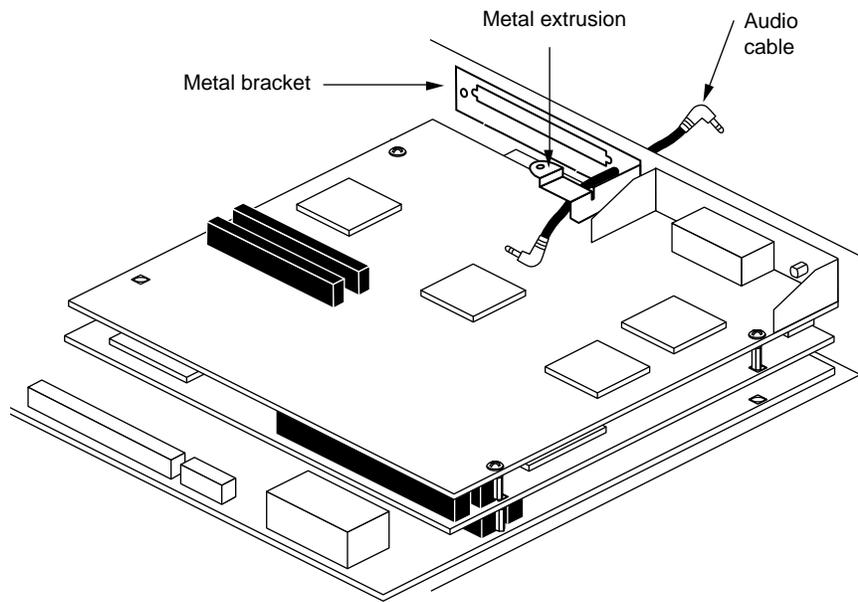

Figure 3-10 Installing the Metal Bracket
- On the inside of the chassis, position the bracket against the open slot, aligning the dimples, and pulling one end of the cable through the open slot. (See Figure 3-10.)